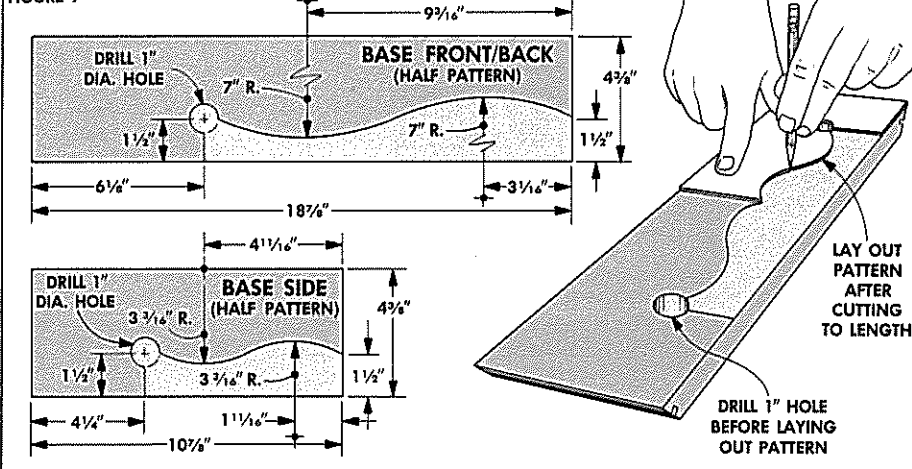

FIGURE 8
Once the case was complete, I began work on the base. The base consists of a scroll-cut kickboard frame with a molding strip glued on top of it, refer to Fig. 8.
**MOLDING STRIP.** To complete the base frame, I made a molding strip (I) that's glued to the top edge of the frame, see Fig. 8. Start by cutting two pieces of 4/4 stock for the sides to a rough length of 22". Then cut the front and back pieces to a rough length of 38".
Before cutting the pieces to final length, I routed a Roman ogee profile along the top edge, see Step 1 in Fig. 8. Then cut a rabbet along the bottom edge, see Step 2.
**Shop Note:** This rabbet should be 1/8" less in width than the thickness of your stock to create a 1/8" shoulder (1 1/16" in my case), see Cross Section in Fig. 8.
**MITER MOLDING.** After the rabbets are cut, miter the pieces so the shoulder of the rabbet fits against the inside edges of the kickboard frame, see Fig. 8. Then glue the molding strips in place.
**ASSEMBLY.** To attach the case to the kickboard frame, drill 3/16" shank holes completely through the base molding, see Fig. 8. Then turn the case upside down and position the base on top of it. Now drill pilot holes, and screw the base to the case, see Fig. 9.